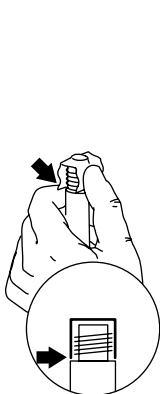

Fig. 7
7. Place the membrane down to align the other edge with the opposite shoulder. See **Figure 7**.